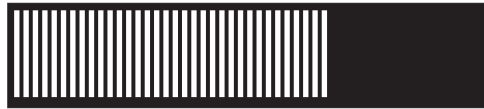

Figure 76. Hardware boot display
**Is the hardware boot display that you see in Figure 76 displayed on the node?**
**Has the hardware boot display that you see in Figure 76 displayed for more than three minutes?**